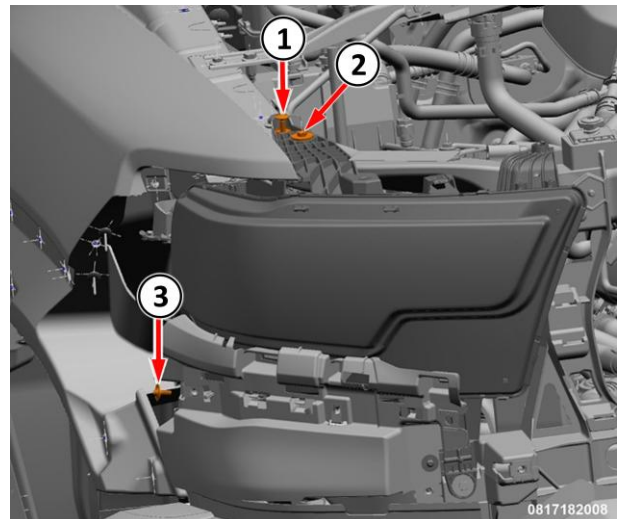

Figure C13 – Headlamp Assembly
17. Remove and retain the bolt from position (3) (Figure C13).
18. Remove and **DISCARD** the bolt from position (2) (Figure C13).
19. Remove the push pin fastener from position (1) (Figure C13).
24. Position the **NEW** headlamp unit to the vehicle and install the push pin fastener in position (1) (Figure C13).
25. Install a **NEW** bolt in position (2) and reuse the bolt in position (3). Tighten the bolts to 6.2 N·m (54 In. Lbs.) (Figure C13).